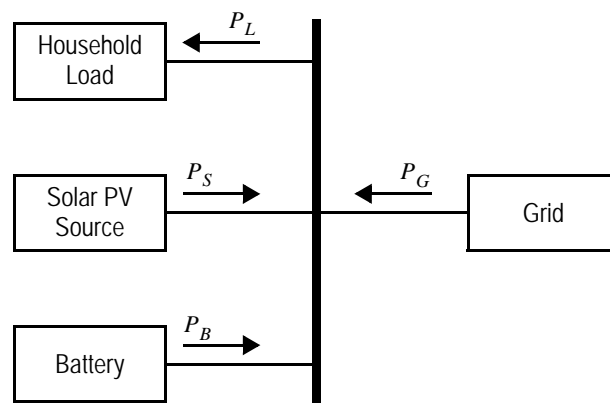

Figure 6: Problem 1.5 – Household power supply augmented with a battery.
- (g) Suppose the household installs a battery as shown in Figure 6. The battery has an energy capacity of 5 kWh and rated continuous power capacity of 2.5 kW for both charging and discharging. Suppose that the battery is fully charged at 0 hours. The battery power output is assumed to be continuously controllable within its power range from +2.5 kW (rated discharge power) to -2.5 kW (rated charging power). Show by means of time-series plots how you would control the battery power output P_B and stored energy E_B so as to minimize the energy that the household consumes from the grid.